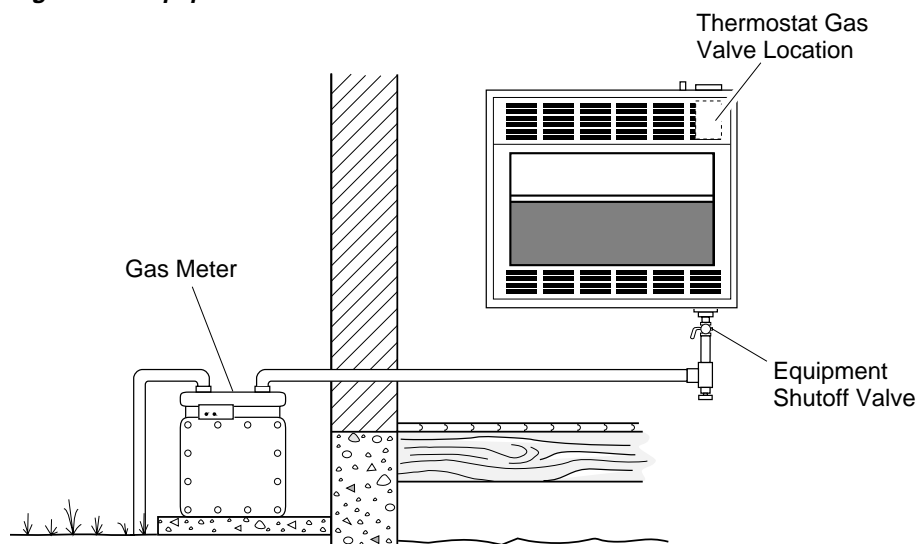

Figure 20 - Checking Gas Joints
3. Check all joints from gas meter to equipment shutoff valve (see Figure 20). Apply mixture of liquid soap and water to gas joints. Bubbles forming show a leak.
4. Check all joints from equipment shutoff valve to thermostat gas valve (see Figure 20). Apply mixture of liquid soap and water to gas joints. Bubbles forming show a leak.